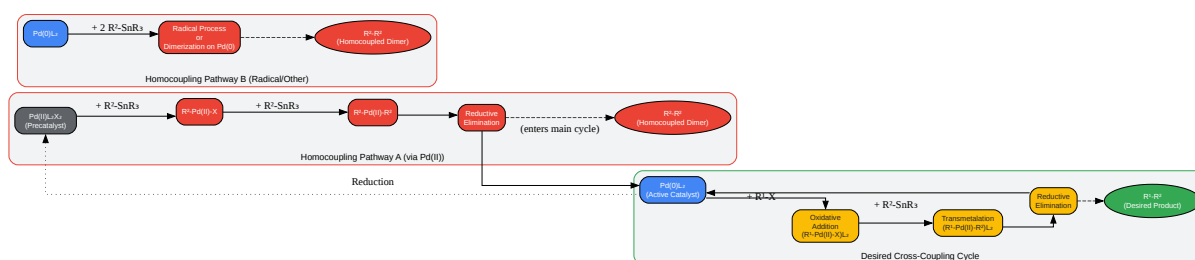

Fig. 1: Competing Catalytic Cycles in Stille Coupling
Caption: Fig. 1: The desired Stille cycle vs. two competing homocoupling pathways.
- **Switch to a Pd(0) Source:** If you are using a Pd(II) precatalyst like Pd(OAc)₂ or PdCl₂(PPh₃)₂, you are relying on an in situ reduction to generate the active Pd(0) catalyst.^{[7][8]} If this reduction is slow or incomplete, the remaining Pd(II) can directly cause homocoupling (Pathway A in Fig. 1).^[4]
- **Solution:** Switch to a dedicated Pd(0) source such as Pd₂(dba)₃ or Pd(PPh₃)₄. This ensures the active catalyst is present from the start, bypassing problematic reduction steps.^{[8][9]}